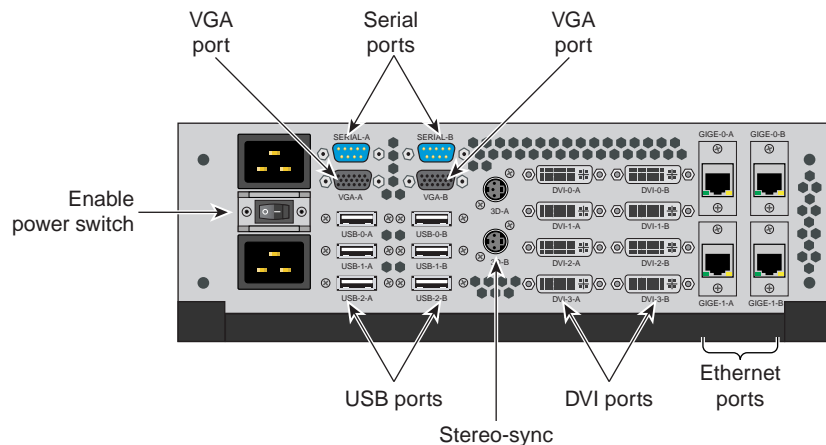

Figure 1-2 Octane III Deskside Workstation Rear Panel Connectors
1. Connect the keyboard and mouse to USB-*N*-A connectors on the rear of the enclosure, see Figure 1-2. If you are using a workstation with two independent “heads” (a second internal tray), connect the second keyboard and mouse to USB-*N*-B connectors.
4. If you have ordered an optional external DVD-RW drive, connect it to the remaining USB-*N*-A plug on the rear of the system. Power-up the external drive **after** you have successfully booted the Octane III. Remember that if you have a system using only the primary tray (A), then only connectors from the USB-*N*-A side will work.